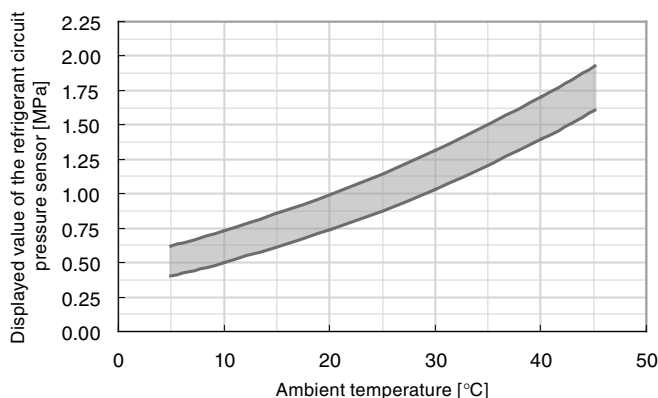

Fig. 4-42 Ambient temperature and refrigerant circuit pressure
- (1) Leave the Thermo-Chiller not operating for 24 hours to make the ambient temperature and the temperature inside the Thermo-Chiller the same.
- (2) Check the ambient temperature.
- (3) Check the “Ph: Refrigerant circuit pressure on the high pressure side” value in the “Check Monitor Menu”.
- (4) Check if the value at the cross point of the ambient temperature and the “Ph: Refrigerant circuit pressure on the high pressure side” value is within the range (the shaded part) in Fig. 4-42. If the cross point is within the range, it means that the pressure sensor is operating correctly.
- (3) Check “PL: Refrigerant circuit pressure on the low pressure side” value in the “Check Monitor Menu”.
- (4) Check if the value at the cross point of the ambient temperature and the “PL: Refrigerant circuit pressure on the low pressure side” value is within the range (the shaded part) in Fig. 4-42. If the cross point is within the range, it means that the pressure sensor is operating correctly.